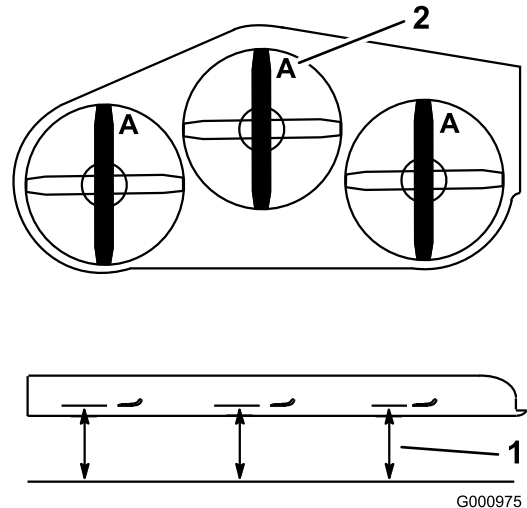

Figure 15
2. Measure from a level surface to the cutting edge, position **A**, of the blades (Figure 15).